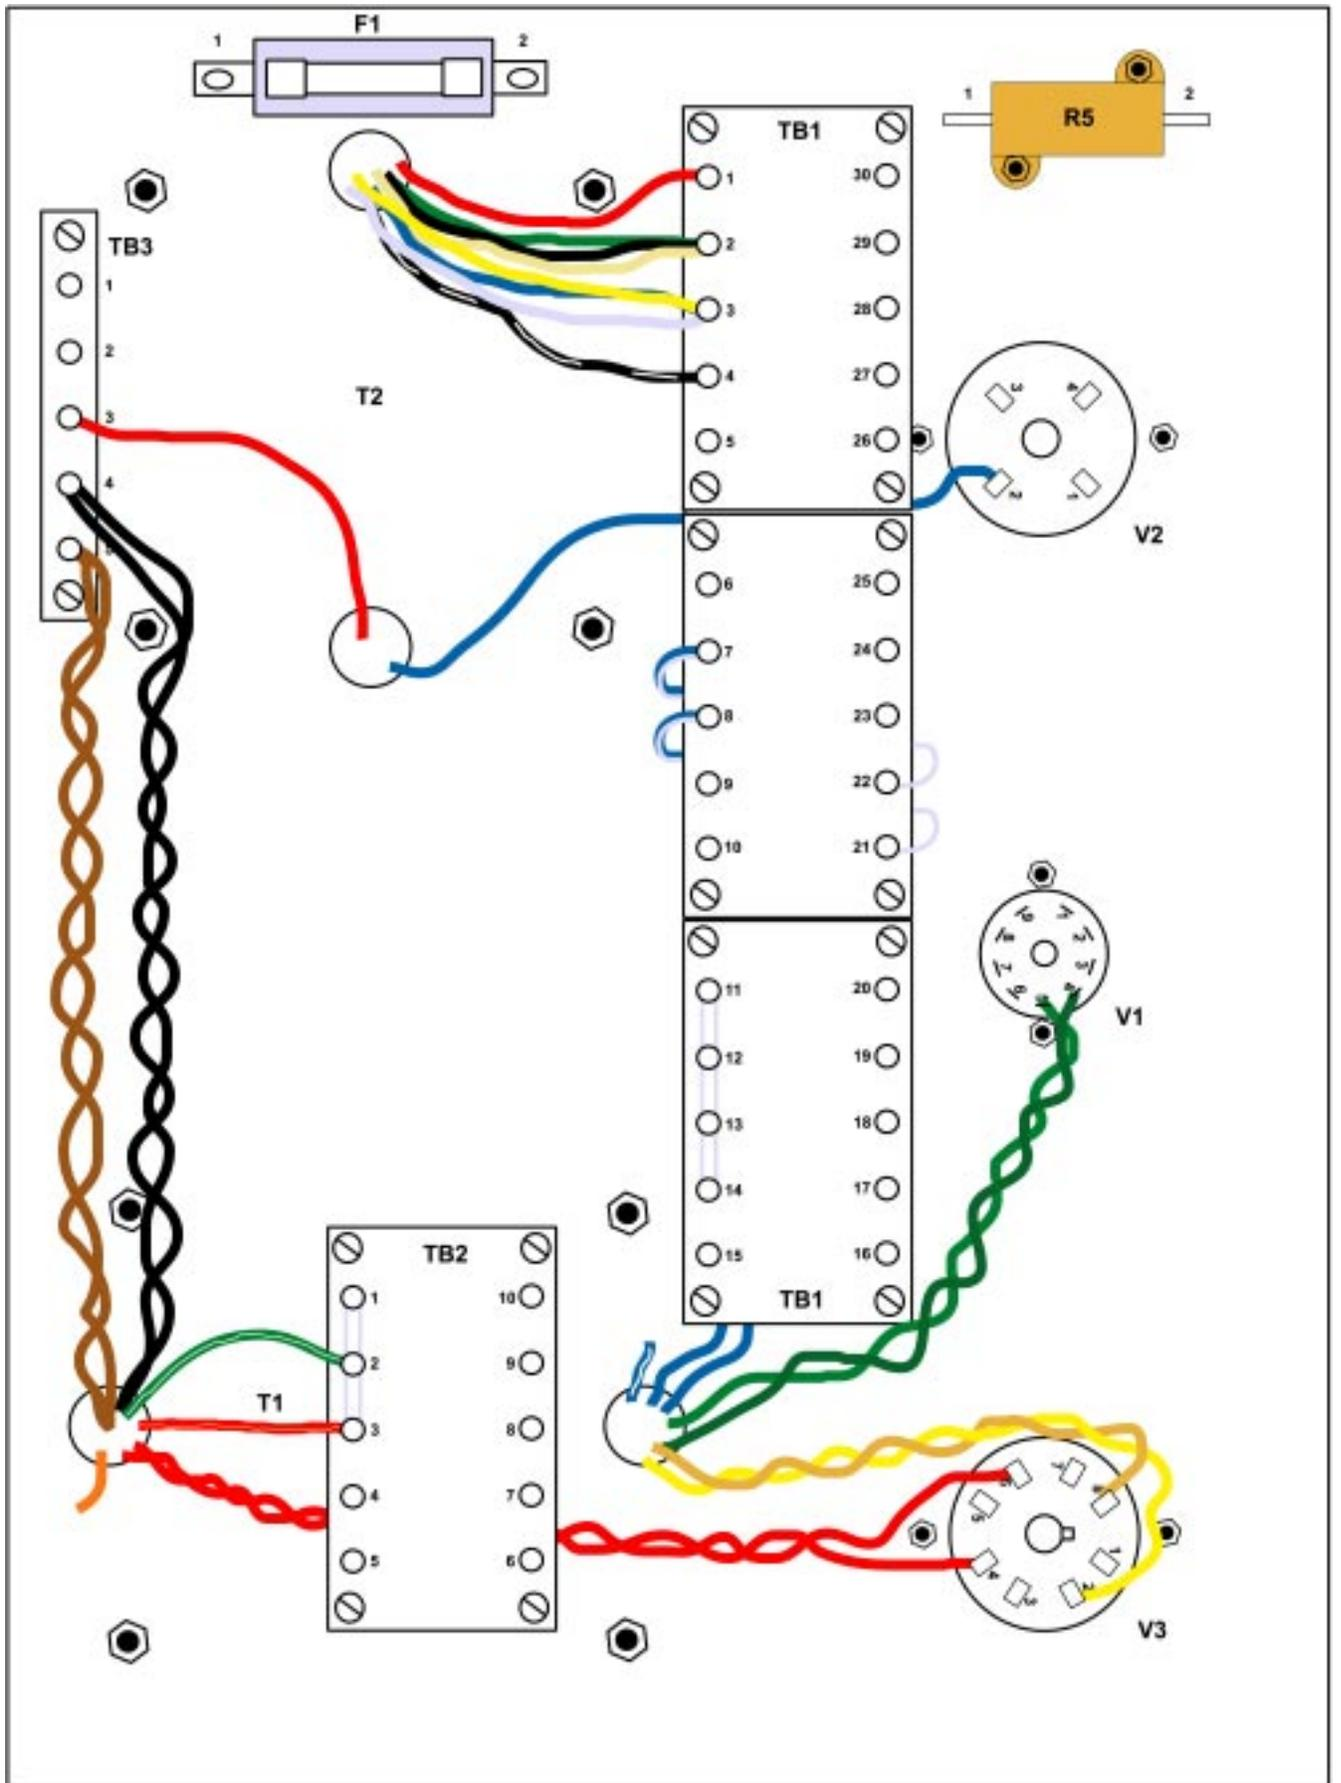

Figure 3
2) Mount the output transformer T2 and the power transformer T1 using the supplied hardware. It is generally easiest to do this by laying the chassis on a flat surface and feeding the transformer wires down through their respective holes. Referring to figure 3 and identifying the location of the transformer lead colors will give you an indication of which direction to orient the transformers when mounting them onto the top plate. **Be careful not to scratch the plate surface with the transformer edges or your tools.** Secure the transformers to the chassis using the button head screws, brass washers and brass nuts supplied in the plastic bag marked "H/W1".
There are two green leads from transformer T1. Twist these two leads together using approximately 2 twists per inch, route them as shown in figure 3, and solder one green lead to V1-4 and the other lead to V1-5. These leads can also be routed under TB1.
Connect the green with yellow striped lead of transformer T1 to TB2-2 as shown in figure 3.
There are two blue leads from transformer T1. Twist these two leads together using approximately 2 twists per inch, route them along TB1 as shown in figure 3, and solder one blue lead to TB1-7 and the other lead to TB1-8.
4) Connect the T1 transformer primary leads based upon your ac voltage requirements. Refer to figure 3 and the instructions below (figure 3 depicts a 120Vac connection).
Refer to the table below for the output transformer coding. The output impedances are selected by interconnecting the eight color coded **secondary** leads as shown below. Figure 3 depicts the connection for 8 ohms, however the terminals of TB1 can be used for connecting any of the configurations below. If you decide to shorten the output leads of the transformer T2, the red enamel coating on the wires must be removed before soldering to the terminals. This can be easily done by scraping with a razor blade.
Locate the bare uninsulated silver wire. Wrap a piece of the wire tightly around terminals TB1-11, TB1-12, TB1-13 and TB1-14 as shown in figure 3. Wrap another piece of the wire tightly around terminals TB2-1, TB2-2 and TB2-3 as shown in figure 3. Now make a solder connection between each of the terminals and the wires.